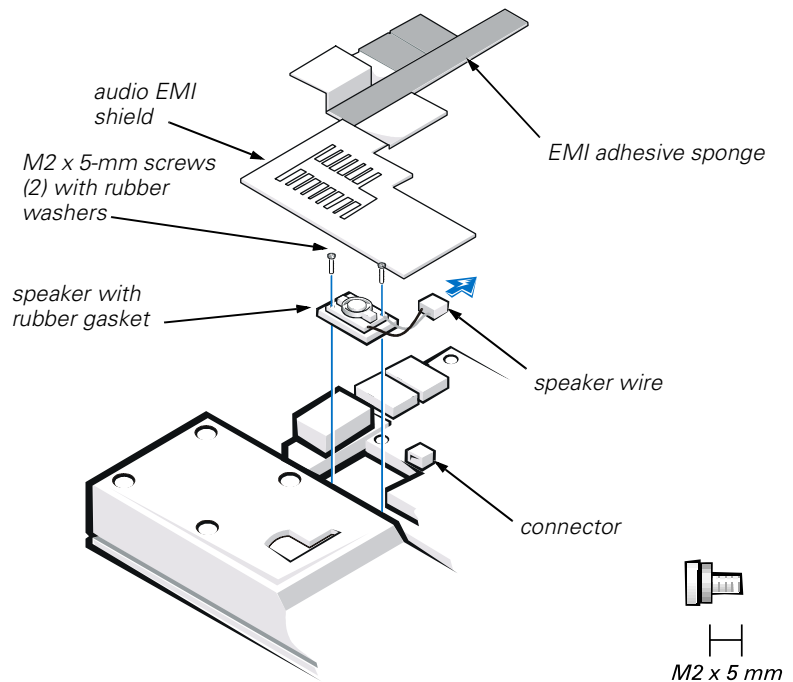

Figure 21. Speaker Removal
5. Peel up the EMI adhesive sponge that connects the audio EMI shield to the thermal cooling solution (see Figure 21).